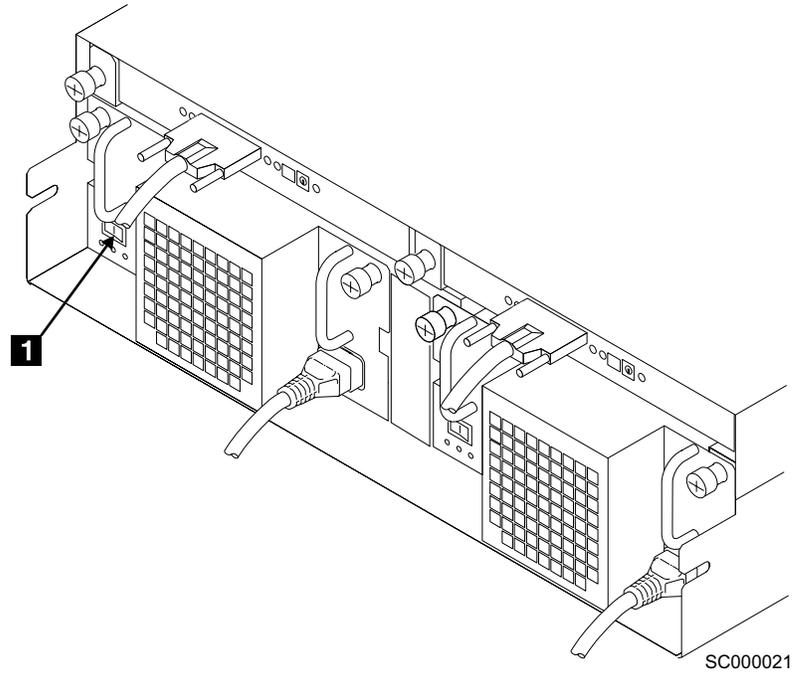

Figure 58. Fan-and-power-supply dc on/standby switch
8. Set the dc on/standby switch **1** on the new fan-and-power-supply assembly to on. See Figure 58.